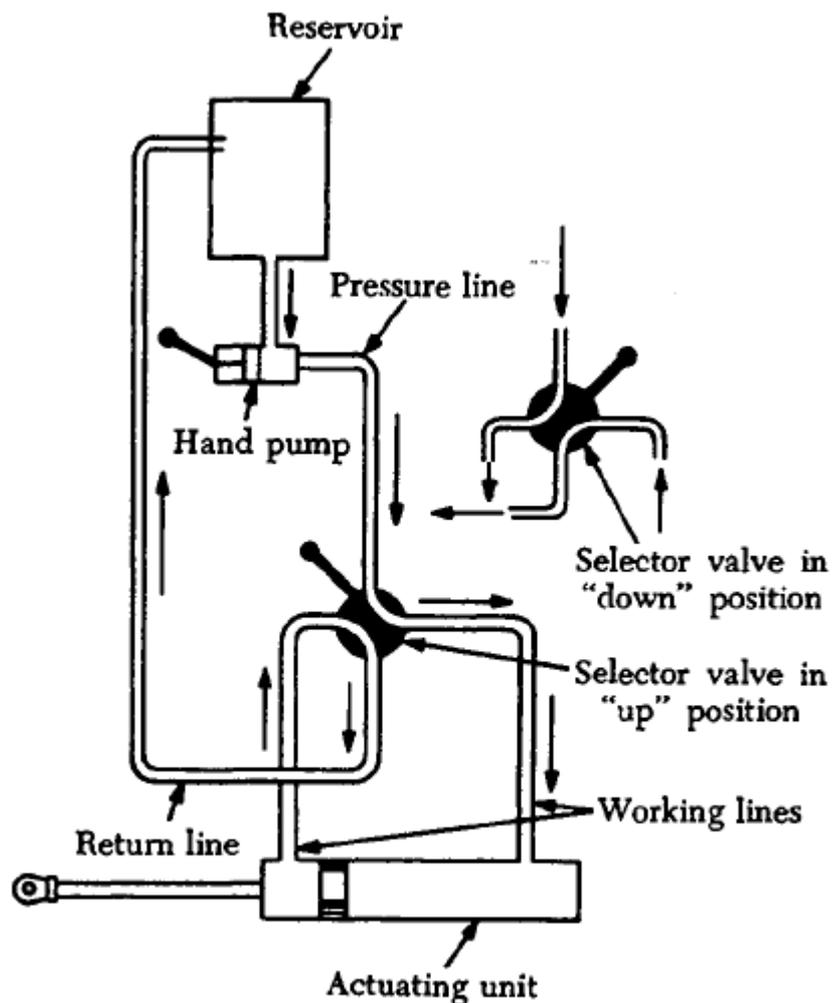

FIGURE 8-5. Basic hydraulic system with hand pump.
7. The flow of hydraulic fluid can be traced from the reservoir to the selector valve in figure 8-5.
9. Fluid pressure then forces the piston to the left, and at the same time the fluid which is on the left side of the piston (figure 8-5) is forced out and back to the reservoir through the return line.